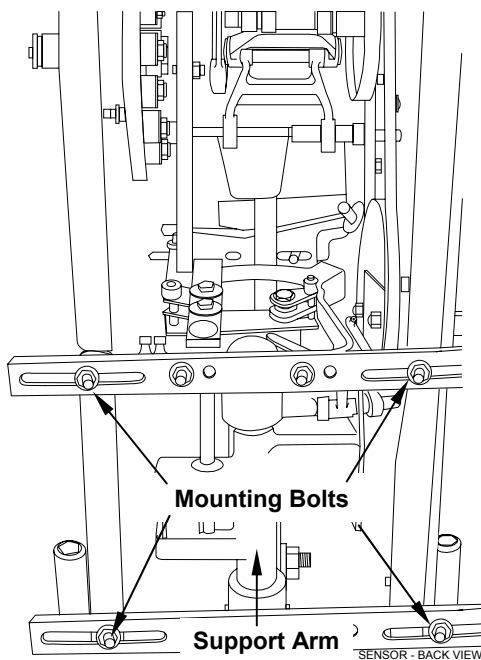

Figure 2-5
2. The ball lift sensor support arm should be centered between the side plates. Measure with a ruler. Loosen the mounting bolts and adjust if necessary (see Figure 2-5).